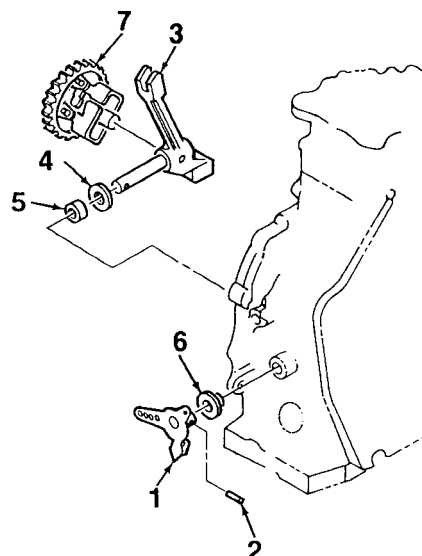

Figure 5-23. Governor Removal
1. Reach into cylinder block and disengage governor (7, Figure 5-23) from governor lever assembly (3). Remove governor lever assembly from lever (1) by removing pin (2).
2. Remove washer (4), bearing (5), and bush (6).
1. Install governor lever assembly (3, Figure 5-23), washer (4), and bearing (5) into cylinder block. Engage governor (7).
2. Install bush (6). Mate lever (1) onto governor lever assembly (3) and secure using pin (2).